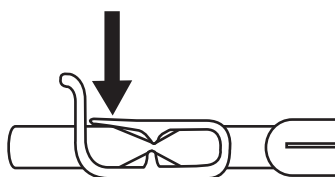

fig.19
7. As soon as you feel your lungs are nearly empty, and end-tidal breath has almost been reached, engage/close the clamp at the outlet of the bag. (fig. 19)